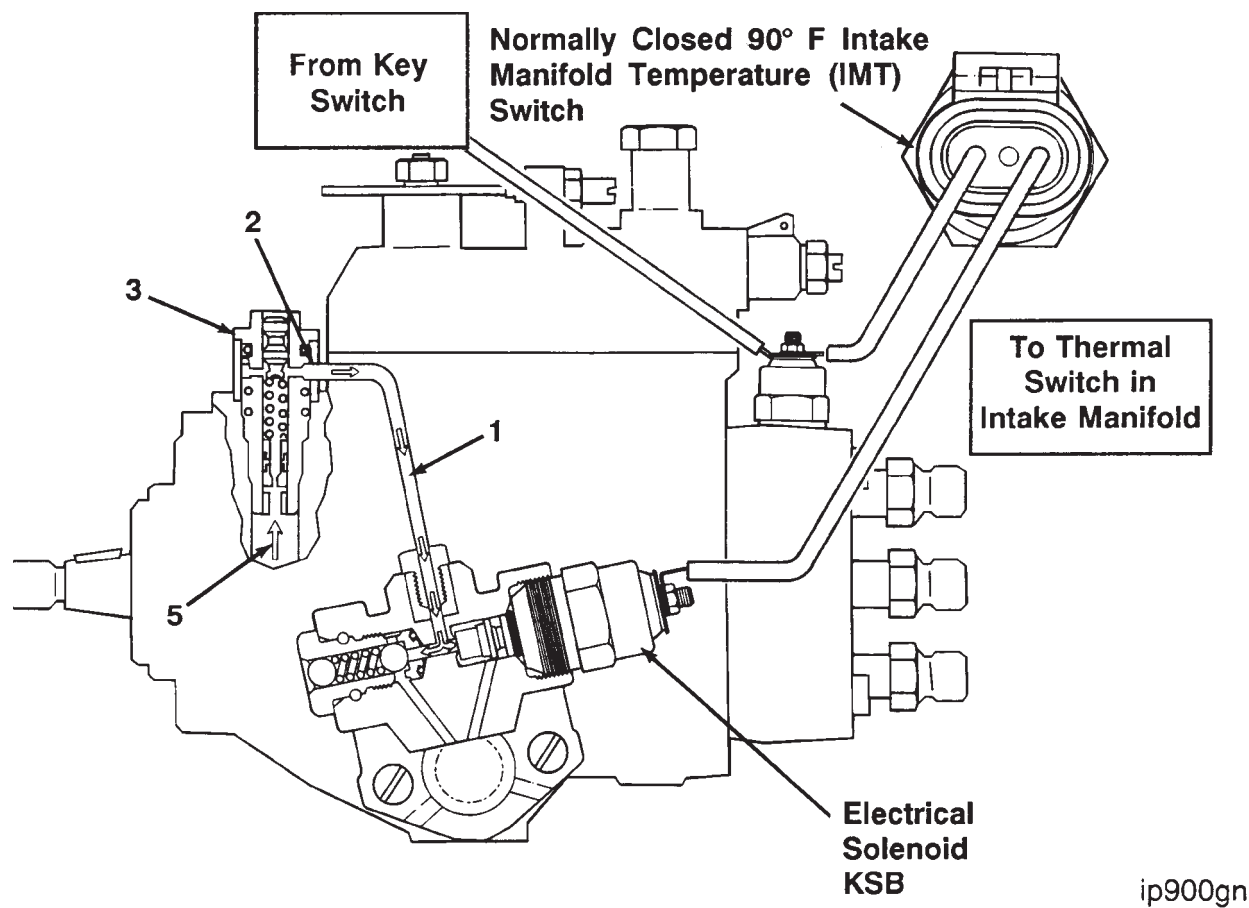

Figure 3: Cold Engine Operation (Less Than 90°F IMT), Advanced Timing
The KSB introduces a new fuel line (1), Figure 2, which routes fuel from the relief port (2) of the pressure regulator valve (3) to the plunger end (6), Figure 3, of the electrical solenoid, bypassing the normal return passage (6), Figure 1.
The electrical solenoid style KSB is also equipped with a pressure relief valve (7), Figure 3. If the engine is taken to high idle with the KSB solenoid plunger in the closed position (6), Figure 3, housing pressure can increase enough to rupture the fuel pump housing. The pressure relief valve (7), Figure 3, will pop off its seat before this occurs, however. At a pressure of 4 bar (60 psi), the pressure relief valve (7), Figure 3, opens and allows fuel to drain through an alternate flow path (9), Figure 3.